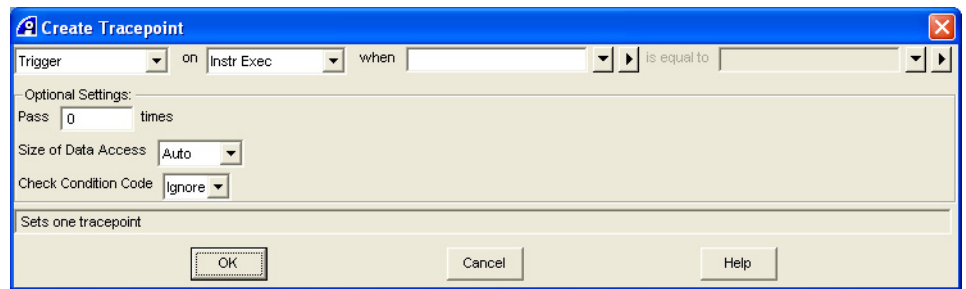

Figure 10-80 Create Tracepoint dialog box
- a. Select **Debug** → **Tracepoints** → **Create Tracepoint...** from the Code window main menu to display the Create Tracepoint dialog box. Figure 10-80 shows an example: